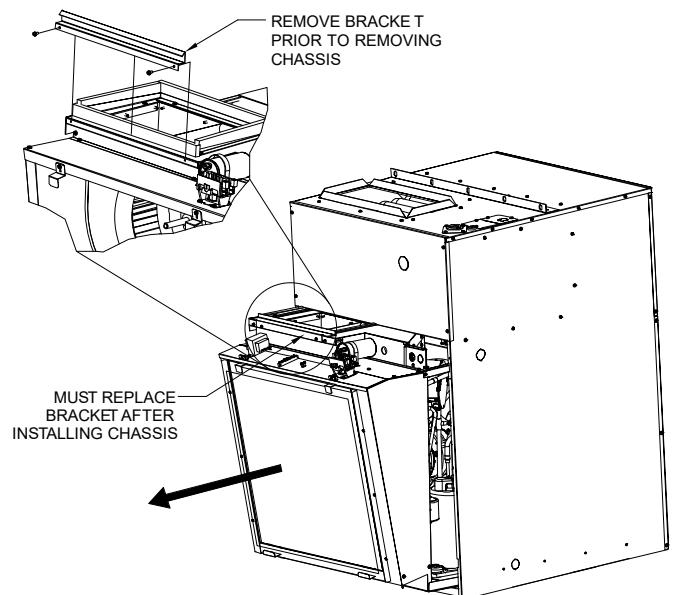

FIGURE 49 – Slide Out Chassis & Side Panel Removal
- 4) Slide-out refrigeration chassis **FIGURE 49 – Slide Out Chassis & Side Panel Removal**.